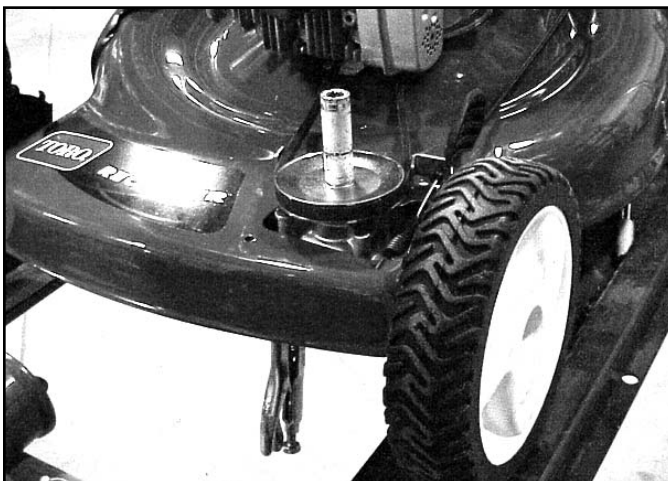

Fig 043
3. Grip the axle with locking pliers and remove the locknut on the transmission pulley (Fig. 043)